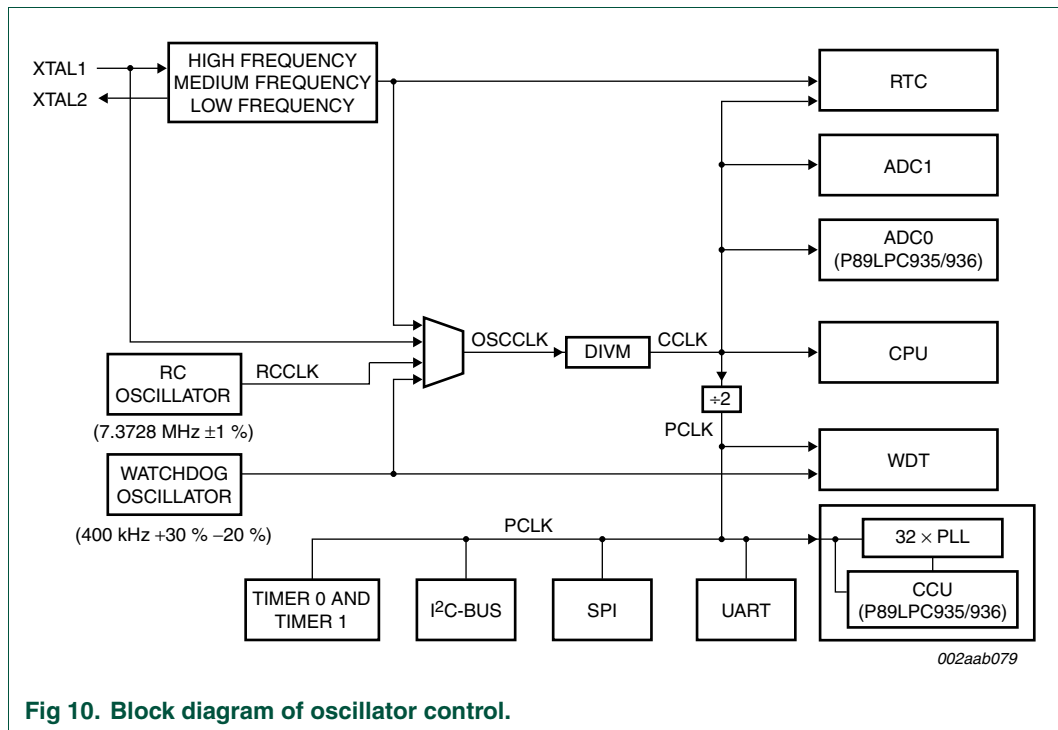

Fig 10. Block diagram of oscillator control.
**OSCCLK** — Input to the DIVM clock divider. OSCCLK is selected from one of four clock sources and can also be optionally divided to a slower frequency (see Figure 10 and Section 2.8 “CPU Clock \(CCLK\) modification: DIVM register”). **Note:**  $f_{osc}$  is defined as the OSCCLK frequency.